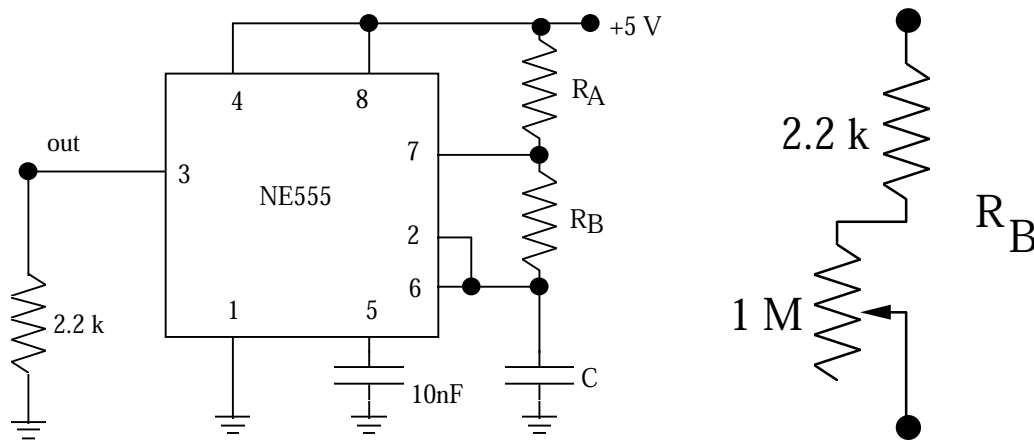

Figure 11.2 NE555 oscillator circuit
11.1 The 555 can be used as an oscillator ("astable" mode) in the circuit shown in Figure 11.2:
Build the circuit in Figure 11.2 using $2.2\text{ k}\Omega$ for R_A , another $2.2\text{ k}\Omega$ in series with a $1\text{ Meg}\Omega$ potentiometer for R_B (as shown in Figure 11.2), and 360 pF for C . Determine the frequency range that can be achieved by varying the potentiometer and compare with the theoretical range based on the equations given in the NE555 data sheets (see Appendix). Measure the frequency and duty cycle (fraction of time the output spends in the high state) for several potentiometer settings, and compare to predicted values (see Pre-lab Question 2). **Note:** the data sheets use a slightly different and unusual definition of the duty cycle.